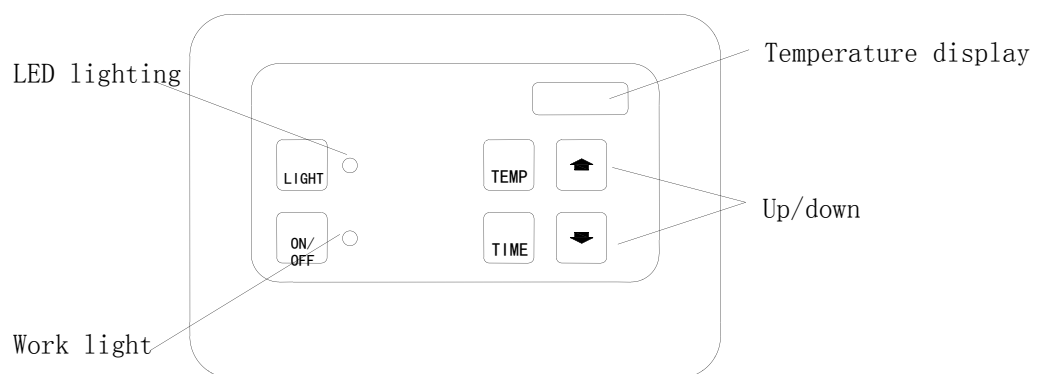

Figure 13
- 2, ST-135T’s shape and function operation, figure 13